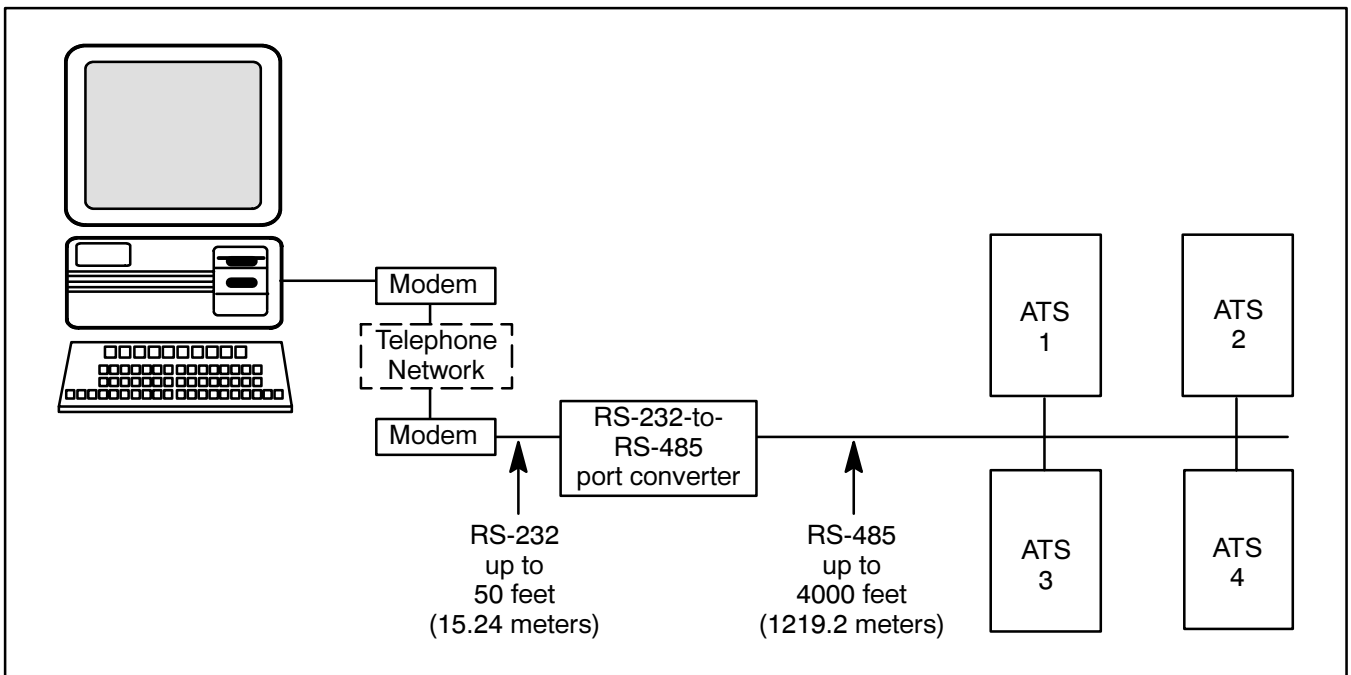

Figure 6-6. Remote Area Network
4. **Remote Area Network:** A personal computer is connected to a modem. The transfer switch controllers are connected to a LAN network. The computer communicates to the transfer switch controllers via a telephone network that is interfaced to the LAN network. Because a telephone network is used, the computer can be located anywhere a telephone line can be accessed. See Figure 6-6.